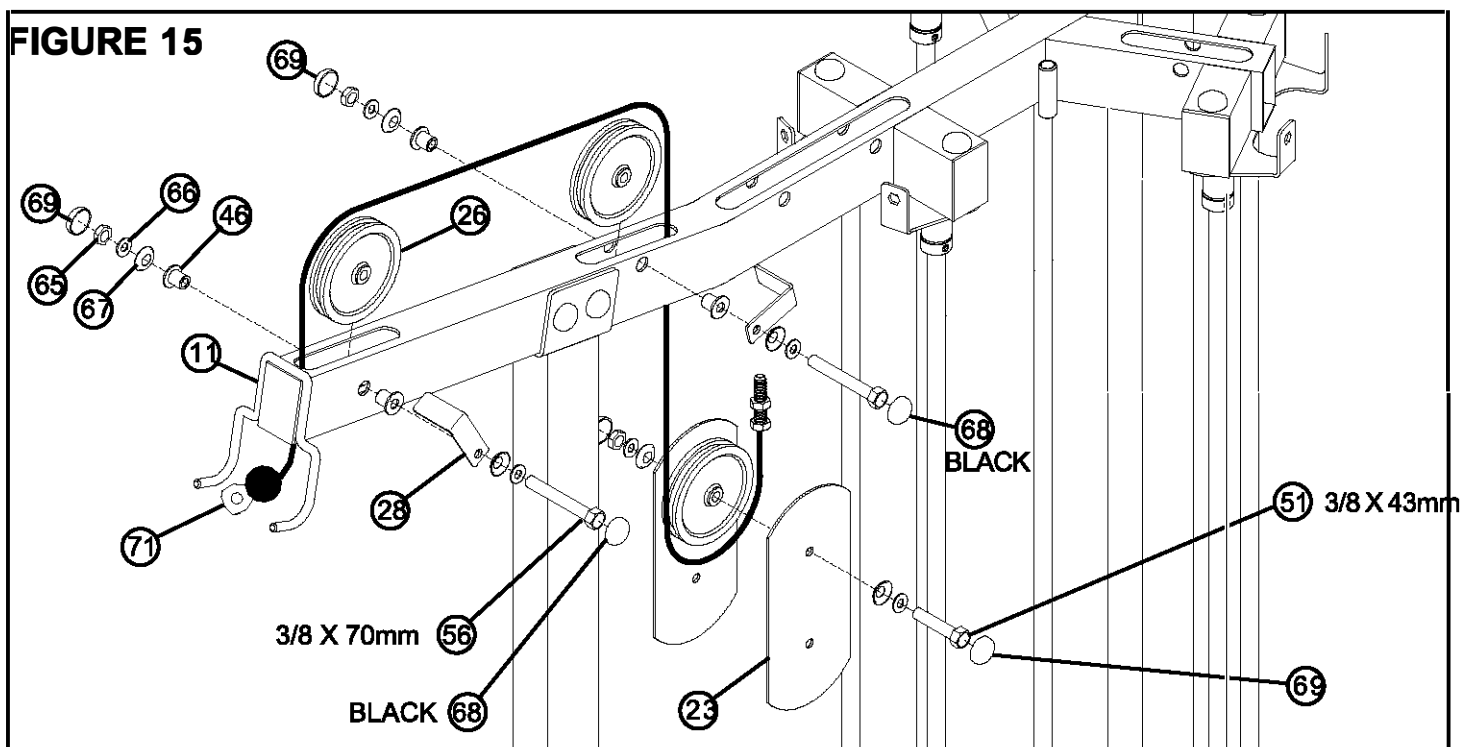

**FIGURE 14**
- **SECURELY** assemble the LAT/LOW ADJUST PLATE (21) to the LAT/LOW FRAME (14) using two BLACK RH CAPS (68), two RH CAPS (69), two 3/8 X 67mm BOLTS (55), four 3/8" SAE WASHERS (66), four 3/8" RH WASHERS (67) and two 3/8" LOW HEIGHT LOCK NUTS (65) as shown in FIGURE 14.
- Assemble the 3/4 X 3-1/8" TAPPED SHAFT (30) to the LAT/LOW ADJUST PLATE (21) using two BLACK RH CAPS (68), one 3/8 X 50mm BOLT (53), two 3/8" SAE WASHERS (66), two 3/8" RH WASHERS (67), one 3/8 X 1/2" SPACER (47) and one 3/8" LOW HEIGHT LOCK NUT (65) as shown in FIGURE 14. (NOTE: Tighten connection enough to remove play, yet allowing TAPPED SHAFT to rotate freely.)